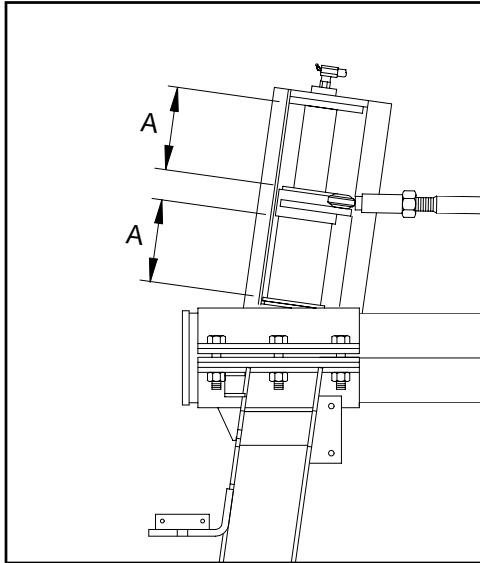
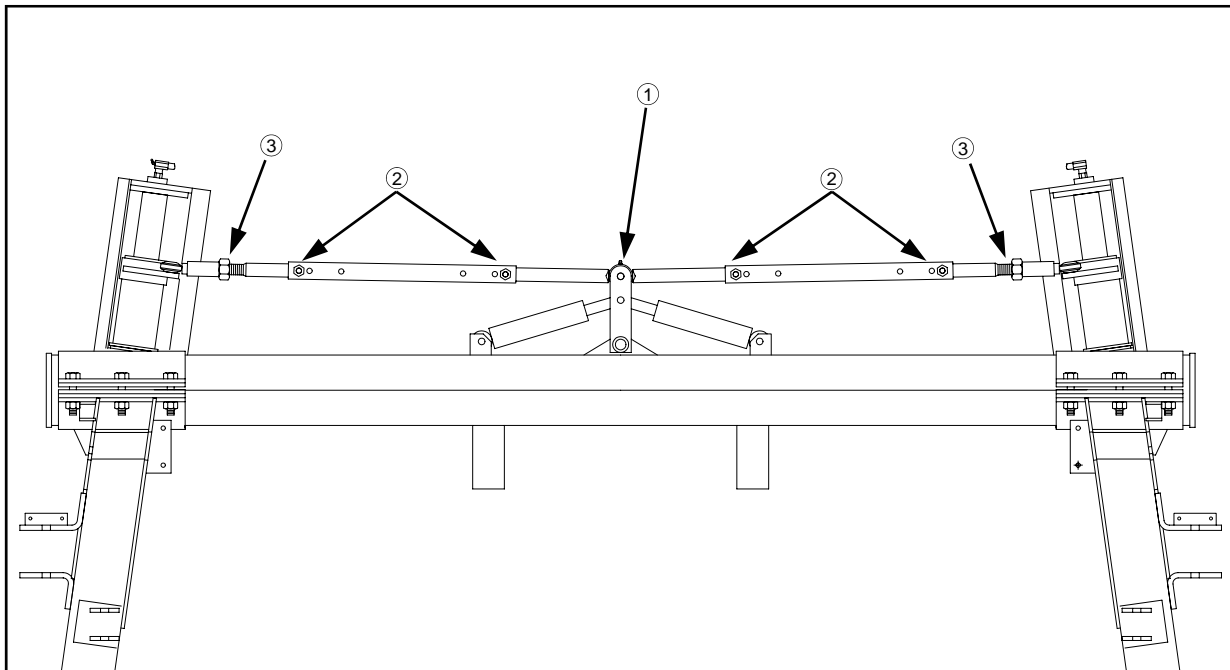

FIG 4.1
FIG 4.2
Dimension A (fig. 4.1) must be equal (see page 91) and steering pivot must be in vertical position (fig. 4.2, item 1).
2. Loosen tie rod bolts (fig 4.2, item 2) and tie rod jam nuts (fig. 4.2, item 3). Remove the bolts and nuts from the tie rod.